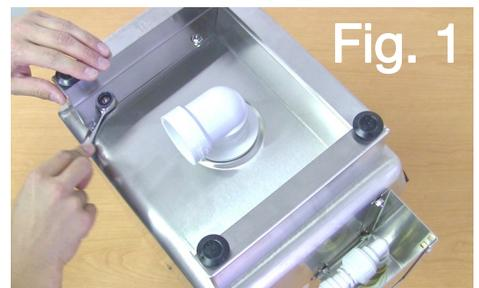

Fig. 1
1. Using a 3/8" wrench, attach Base with (4) 10-24 nuts (in some instances, Base will come pre-attached). (See Fig. 1)